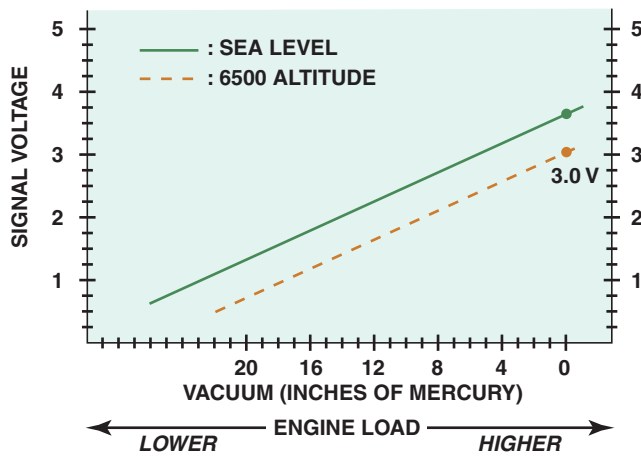

FIGURE 30-6 Altitude affects the MAP sensor voltage.
- The altitude is also reset when the engine is accelerated to wide-open throttle and the MAP sensor is used to reset the altitude reading. ● **SEE FIGURE 30-6.**